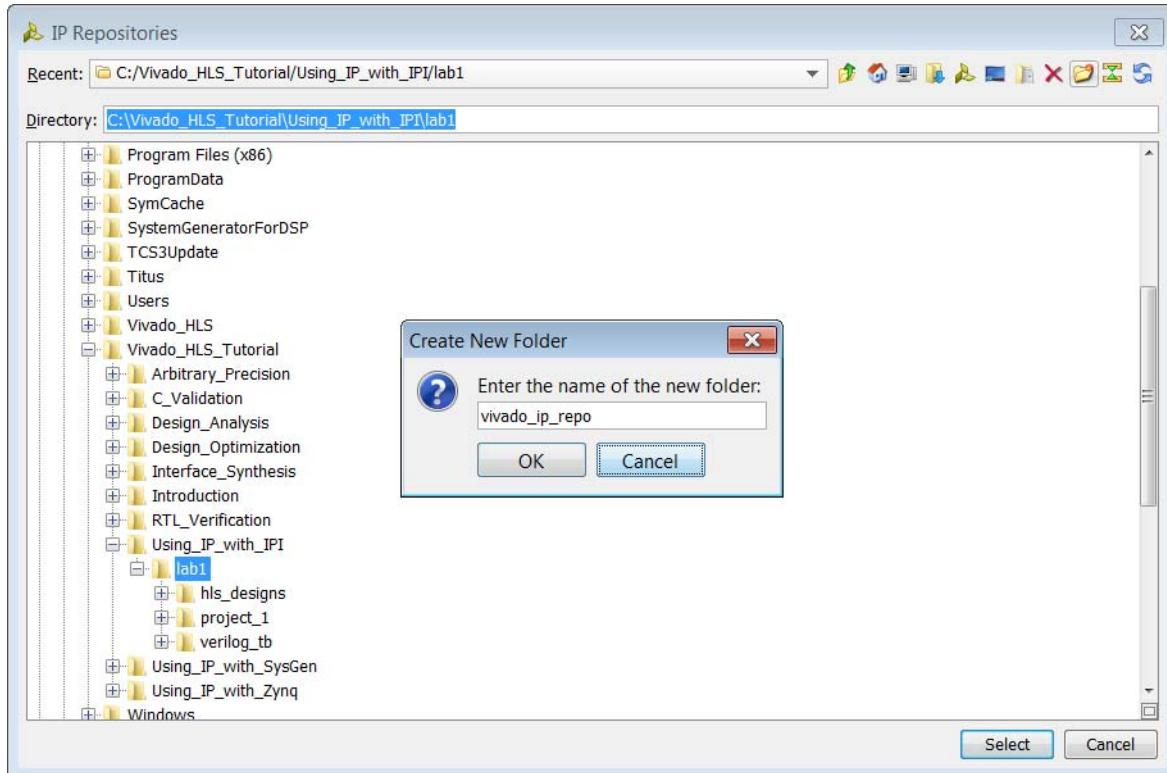

Figure 9-9: Create a New IP Repository
- c. Type `vivado_ip_repo` in the resulting dialog (Figure 9-9).